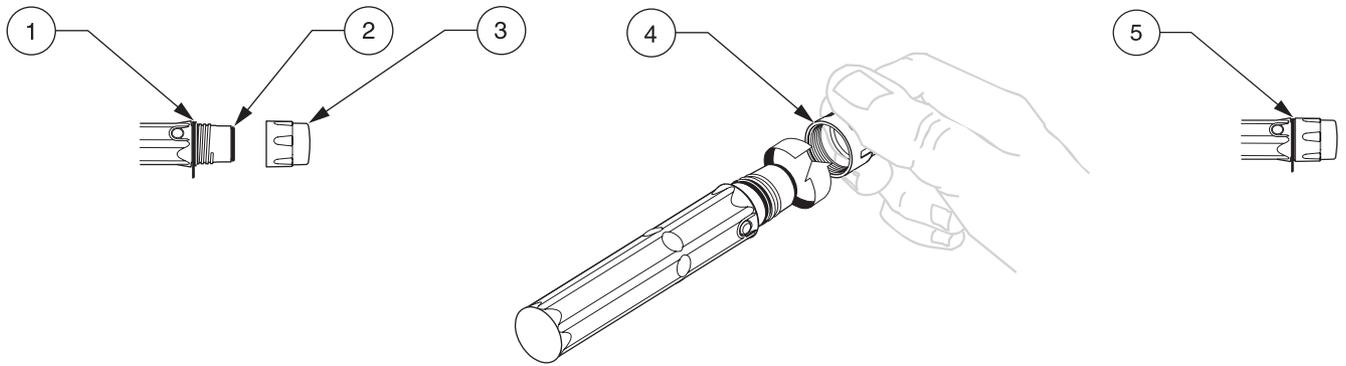

Figure 2 Installing the Sensor Cap
1. Place the cap seal (item 1, Figure 2) and the O-ring (item 2, Figure 2) on the probe.
2. Screw on the sensor cap (Figure 2) so that the o-ring seal is compressed. Do not over-tighten the sensor cap.